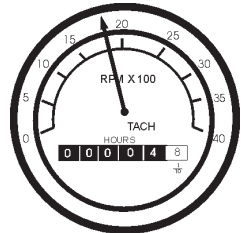

Figure 49. Engine Tachometer Gauge
10. The **tachometer gauge** (Figure 49) will indicate the speed of the engine when the generator is operating. Under normal operating conditions this speed is approximately 1600 RPM's.